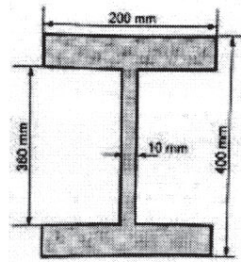

Figure 3
- Q2) a)** A rolled steel joist of I-section has the dimensions as shown in figure 3. The beam of I section carries a U.D.L of 40 kN/m run on span of 10 m. Calculate the maximum stress produced due to bending. Also draw the bending stress distribution across the depth of section. [9]